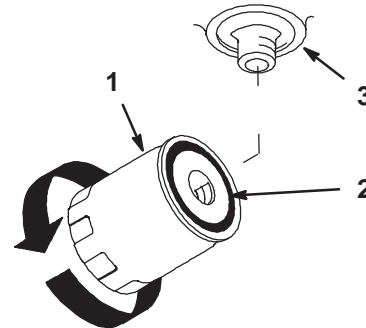

**Figure 50**
3. Place drain pan under filter, remove the old filter and wipe the filter adapter gasket surface clean (Fig. 50).